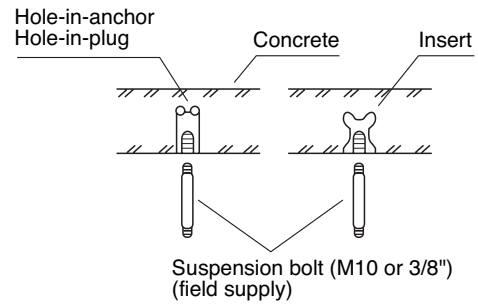

Fig. 3-1
- Fix the suspension bolts securely in the ceiling using the method shown in the diagrams (Figs. 3-1 and 3-2), by attaching them to the ceiling support structure, or by any other method that ensures that the unit will be securely and safely suspended.